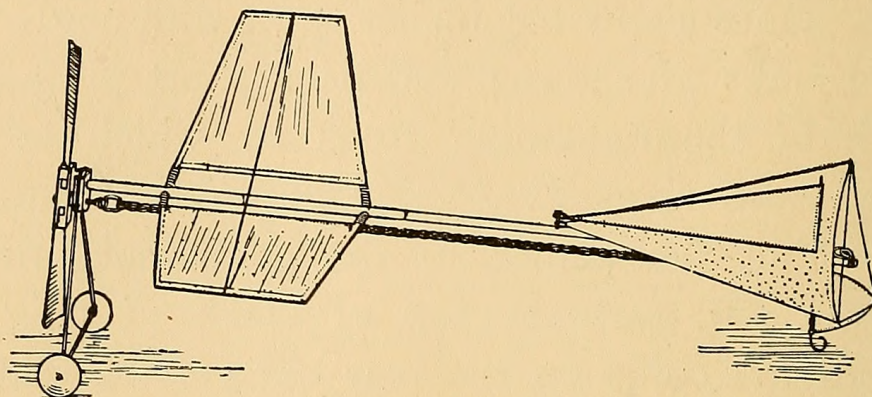

FIG. 391. — Antoinette Monoplane Model.
**The Antoinette Model** shown in Fig. 391 is a neat monoplane and one that is easily made.
wires *C* and *D* on the center-pole (Figs. 392 and 391); bind them in place with linen thread (Fig. 391). Connect the ends of the wings with a thread or cord, and make this short enough to warp the wings  $2\frac{1}{2}$  inches (measurement at center, and from string to center-pole).
**The Tail** has one stick, which slips into a hem in the short edge of the cloth, and cords run through hems on the other two edges. Fasten one end of each cord to the stick and the other end to a small brass ring. This plane should be warped  $\frac{3}{4}$  inch, by attaching a warping cord to the ends of the stick, as shown in Fig. 391.
**The Rudder** has a piece of wire run through its edge to give it stiffness, and the ends of this wire are bent into hooks and fastened to the lower part of wire *E* (Figs. 391 and 392). Attach a thread to the rear of the rudder and fasten the ends of this to the ends of the tail plane, setting the rudder in line with the center-pole, or at an angle, according to whether you wish to have the model fly straight or in a curve.